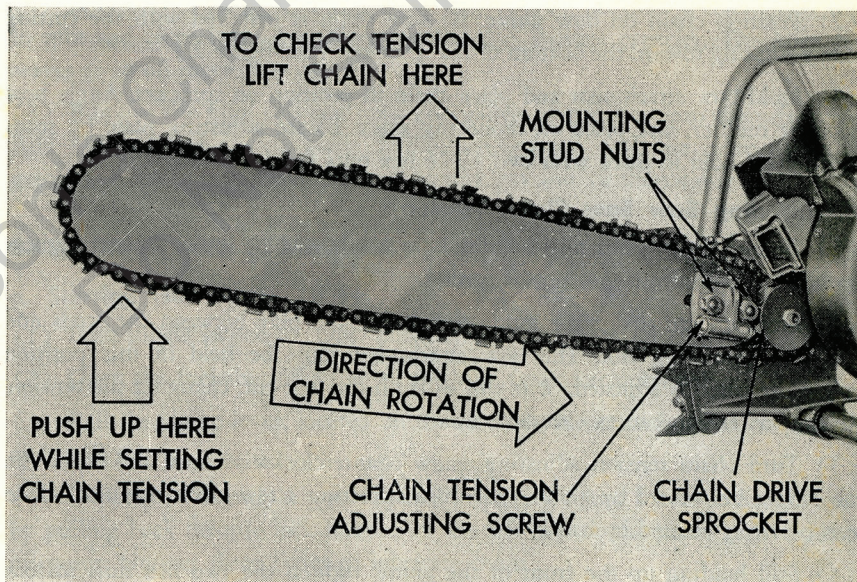

Figure 2—Assembling Guide Bar and Chain
b. Assembling Straight Blade (see figure 2)
(1) Remove the two $\frac{3}{8}$ -16 hex nuts and lockwashers and lift the chain tension device from the mounting studs. Leave the guide bar shim on the studs. Place the guide bar and then the chain tension device on the studs. Slide the guide bar until the tension device pin drops into the hole in the guide bar. Put the lockwashers and nuts back on the studs. Tighten the nuts just enough to hold tension device and guide bar in place.
(2) Turn the chain tension adjusting screw counterclockwise as far as it will go without forcing. This will give clearance to assemble chain on the guide bar.
(3) The chain must be assembled on the guide bar so that the cutting edges of the chain teeth will face in the direction of rotation. (See figure 2.) After slipping chain over the drive sprocket, feed chain into the guide bar groove.
(1) If the unit is being converted from straight blade to bow saw, remove the chain tension device, guide bar and chain from unit. Leave the guide bar shim in place on the gear case studs.
(2) Position chain on bow guide. Be sure chain is installed with the cutting edges rotating toward the bottom of the sprocket. (See figure 2.)
(3) Hold bow attachment and place chain in position on sprocket. Angle bow to clear muffler, and place on mounting studs. Locate adjusting plate on studs and lightly hold in place with two $\frac{3}{8}$ -16 hex nuts and lockwashers.